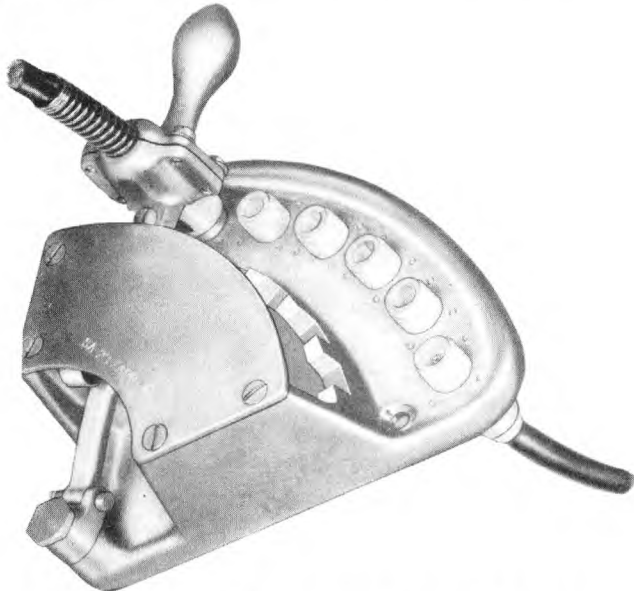

Figure 2-9. Switching Assembly SA-23/APR-4—
(6) ANTENNA STUB AT-38/APT. — Mount Antenna Stub AT-38/APT on the underside of the airplane so that the axis of the stub makes an angle of approximately 45 degrees with the horizontal. When two antennas are used they should be mounted on opposite sides of the ship with the axis of each of them 45 degrees from the horizontal.
(7) SWITCHING ASSEMBLY SA-23/APR-4. — Install Switching Assembly SA-23/APR-4 (see figs. 2-9 and 2-10) at a place convenient to the operator of the receiver.
(a) ANTENNA CABLES TO SWITCHING ASSEMBLY SA-23/APR-4.—Terminate the coaxial cables from the antennas in the fixed portion of the switch as shown in figures 2-9 and 2-10. Terminate the coaxial cable from the receiver in the place provided in the handle of the switch.
(*b*) Select the proper antenna for the frequency range desired (the fan antenna covers 38 to 95 megacycles, Antenna Stub AT-38/APT covers 74 to 300 megacycles, and Antenna AT-49/APR-4 covers 300 to 3300 megacycles) by means of Switching Assembly SA-23/APR-4. (See figs. 2-9 and 2-10.) To do this, raise the hand lever out of its notch and turn it until it is over the notch associated with the proper antenna; then lower the lever into the desired notch.